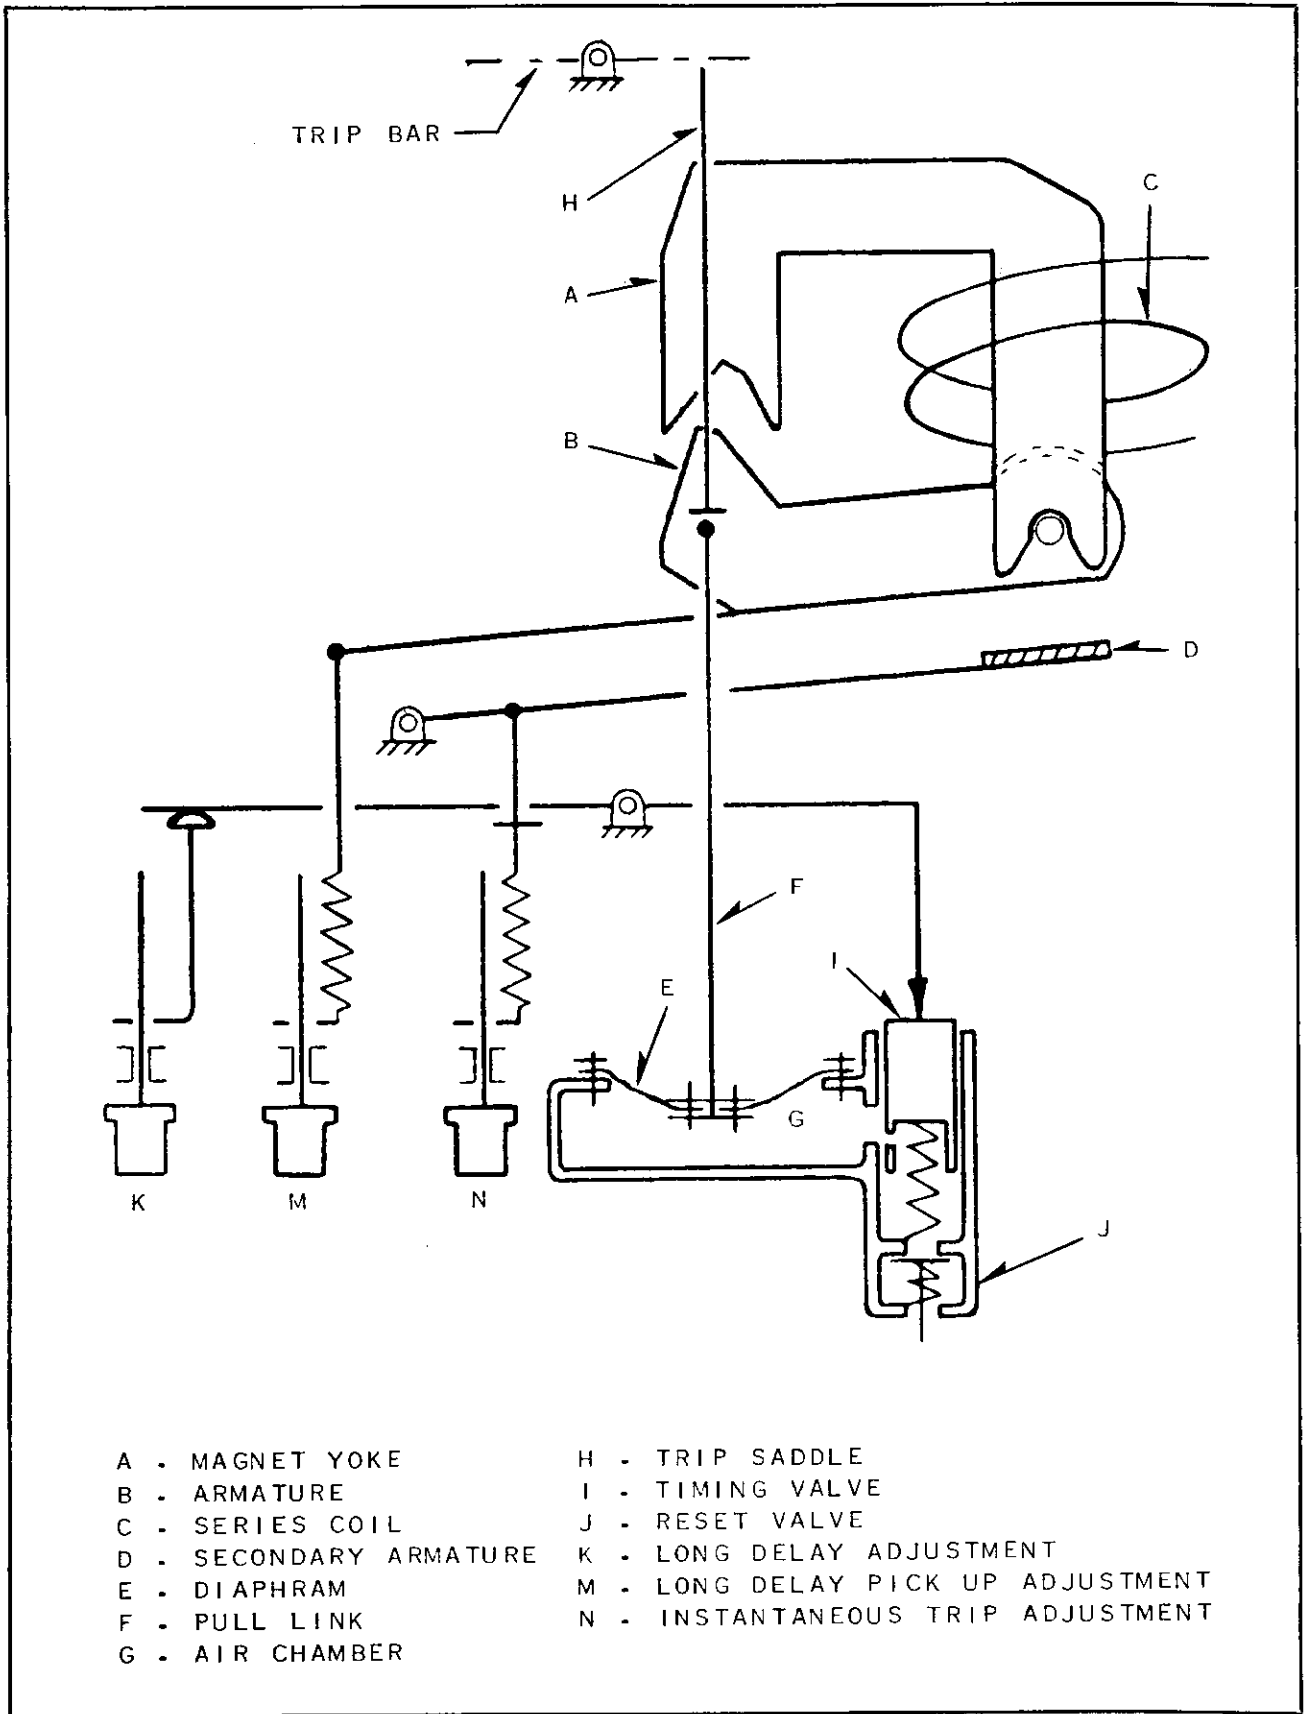
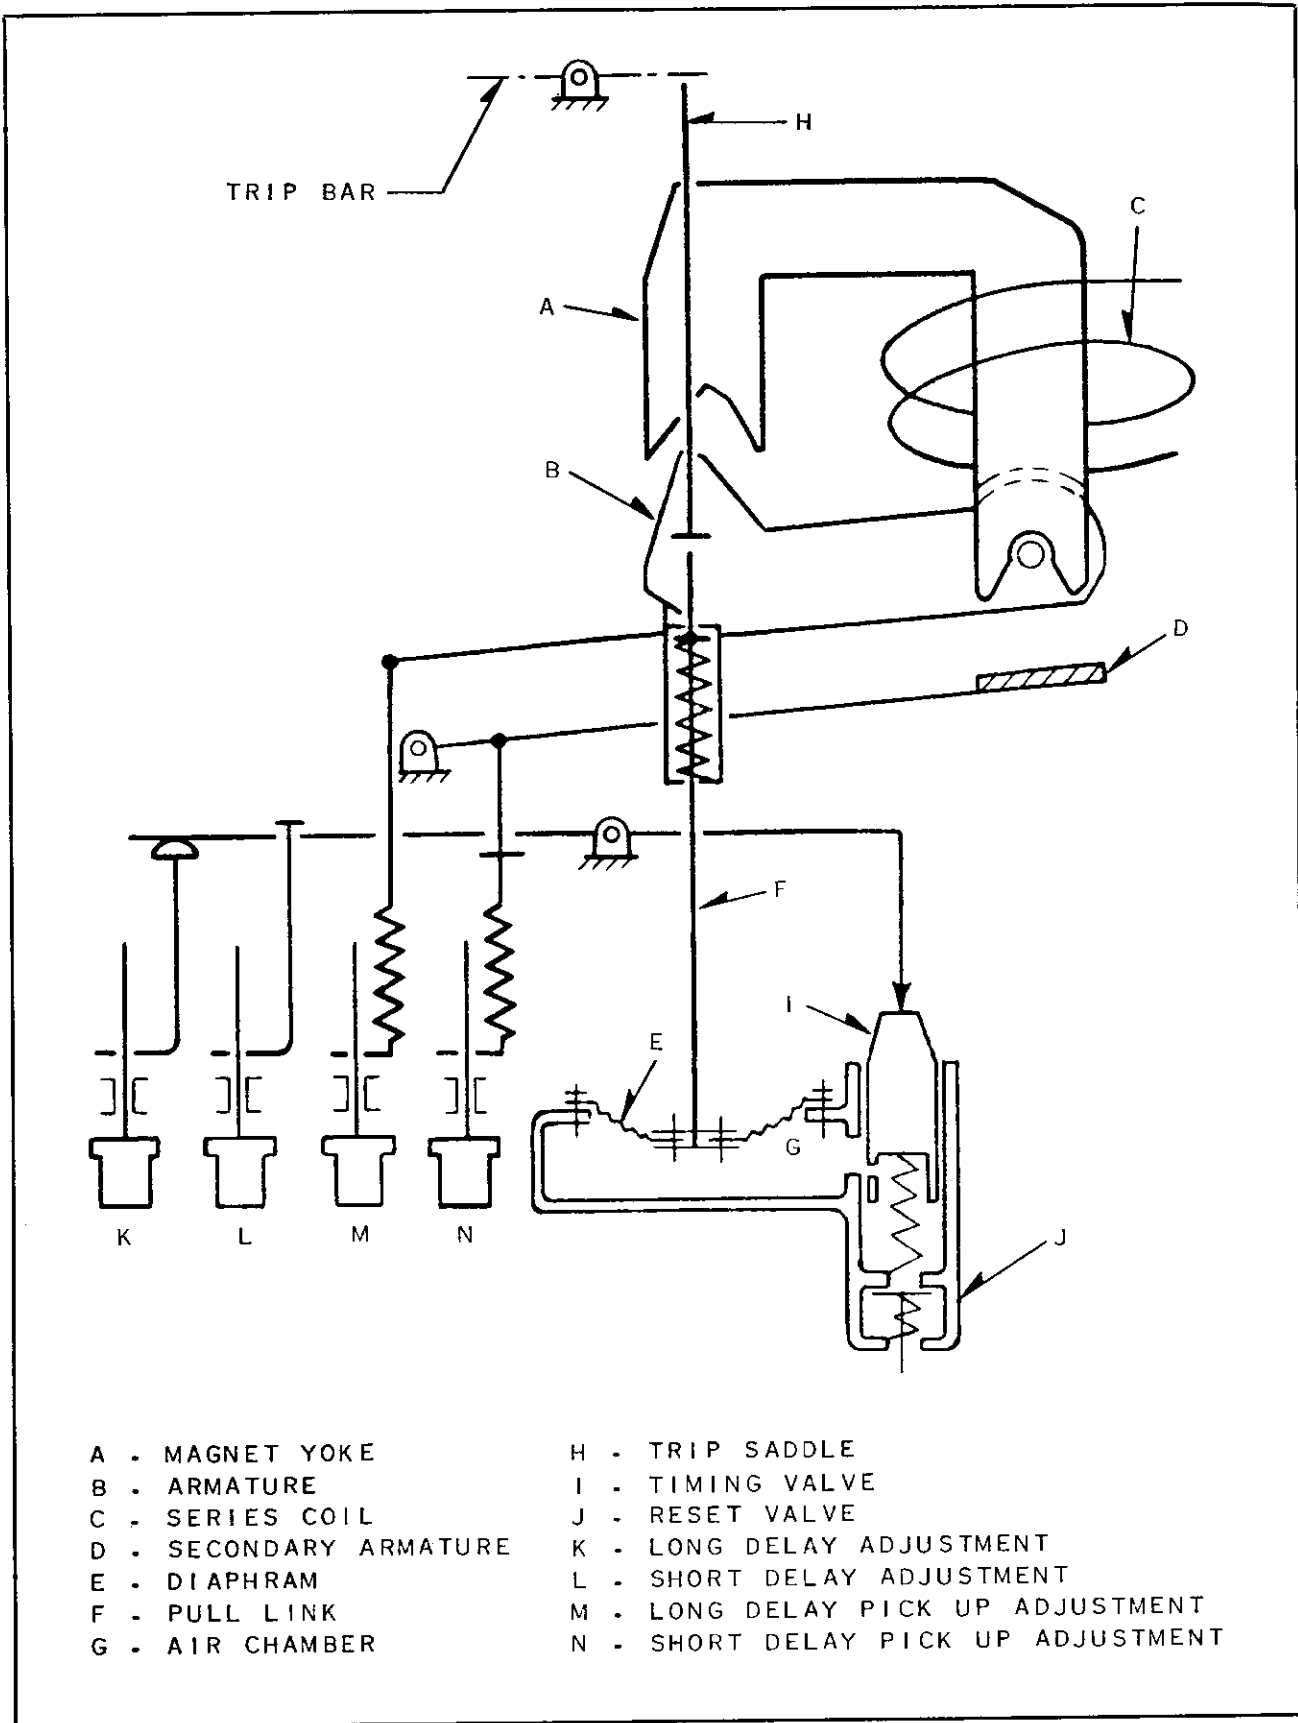

FIG. 7C. Schematic Diagram—Dual Overcurrent Series Tripping Device DE-15 and DE-25 Load Circuit Breakers
FIG. 7D. Schematic Diagram—Dual Selective Overcurrent Series Tripping Device DB-15 and DB-25 Group or Tie Circuit Breakers
**1—Dual Overcurrent Tripping Device for Load Breakers, Fig. 7C**
**2—Dual Selective Overcurrent Tripping Device for Group and Tie Breakers, Fig. 7D**
The operation of this selective device is the same as the dual overcurrent tripping device, except, that in this case, the long delay and instantaneous valve (I) in Figure 7C is replaced with a long delay and short delay valve (I) Figure 7D, which operates the same, except, when valve (I) Figure 7D is forced down by the secondary armature on fault currents it controls the size of orifice to give the tripping time required in the fault current short delay region.
By turning the adjustment knobs K-M-N Fig. 7C and K-L-M-N Fig. 7D, the settings of the various time and pick-up elements can be changed. A clockwise movement of any one of the knobs will increase the setting and a counterclockwise movement will decrease the setting.